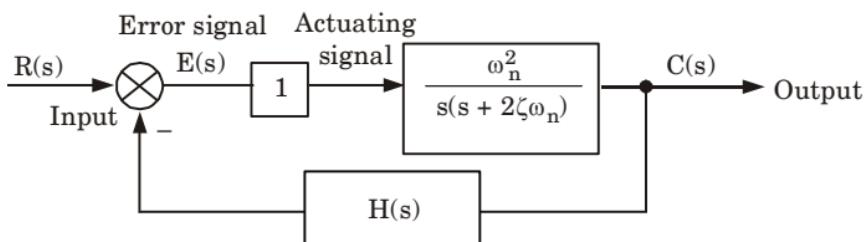

Fig. 11.
- For the system considered as shown in Fig. 11, the actuating signal is proportional to the error signal, therefore, the system is called proportional control system.
- Consider a second order system where controller input is error itself and proportional constant is $K = 1$ as shown in Fig. 11.